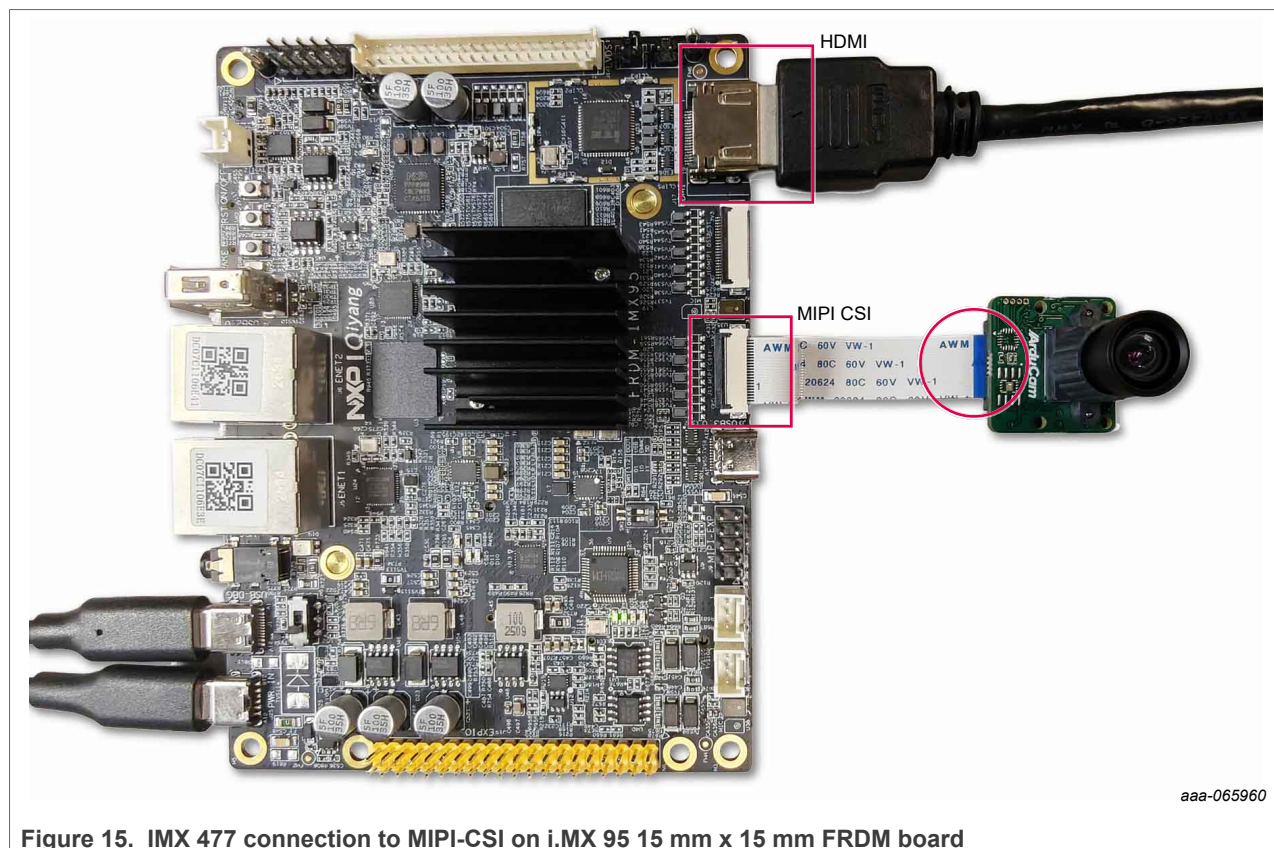

Figure 15. IMX 477 connection to MIPI-CSI on i.MX 95 15 mm x 15 mm FRDM board
3. Use the highlighted MIPI-CSI port to connect to i.MX 95 15 mm x 15 mm FRDM board, as shown in Figure 15.